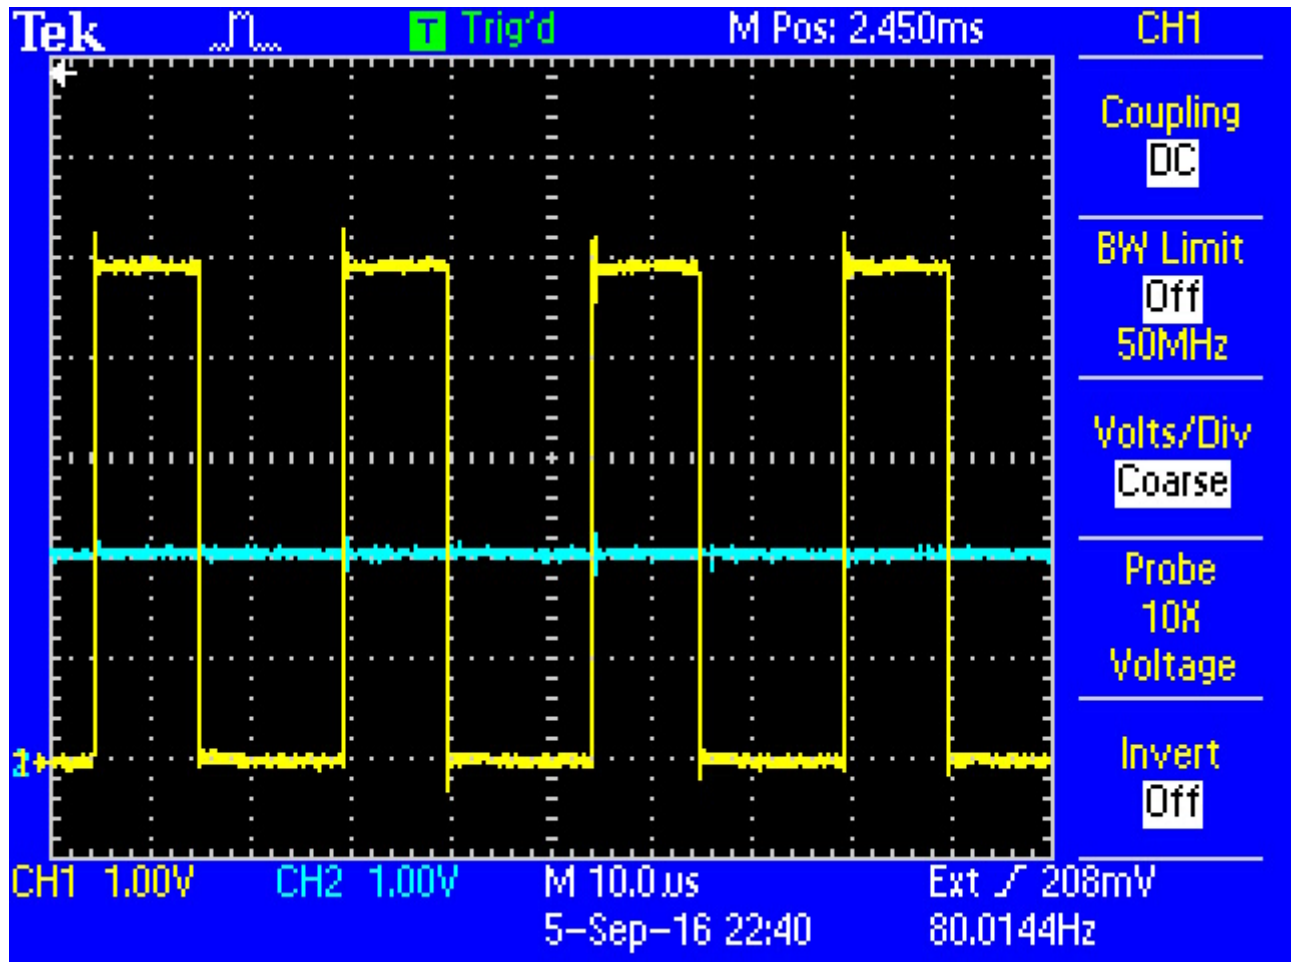

Figure 3: (left) PULSE output (yellow) (right) PWM output (blue) and corresponding analog voltage (yellow)
1. **Square wave (PWM)** Another output is a PWM that has a duty cycle proportional to height . A duty cycle of 100% corresponds to the ball at the top of the tube. (Yellow graph in Figure 3 right)
2. **Analog Voltage (ANLG)** The PWM is also filtered to generate an analog voltage. A voltage of 5 V corresponds to the ball at the top of the tube. (Blue graph in Figure 3 right)